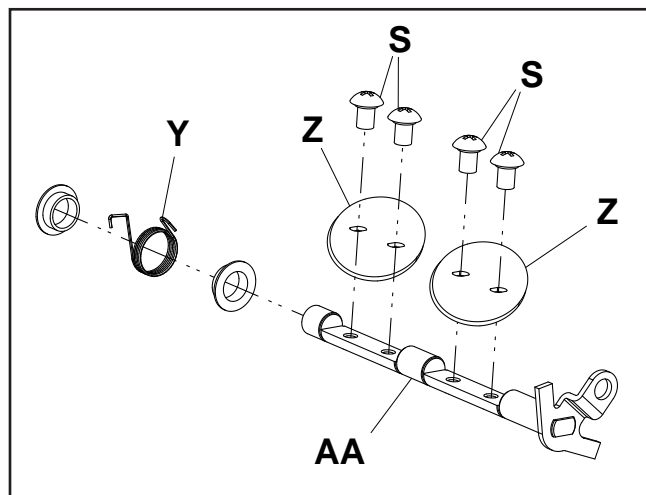

Figure 21
4. Replace if damaged or worn (Figure 21).